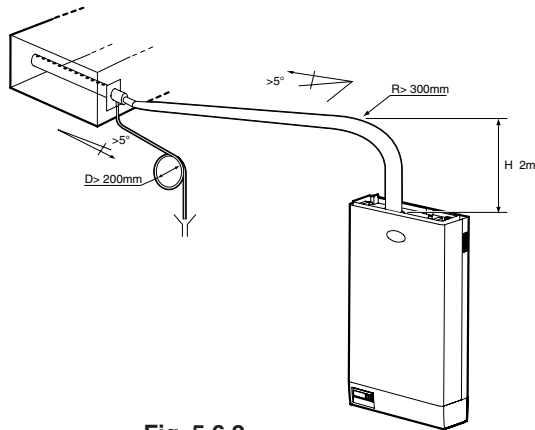
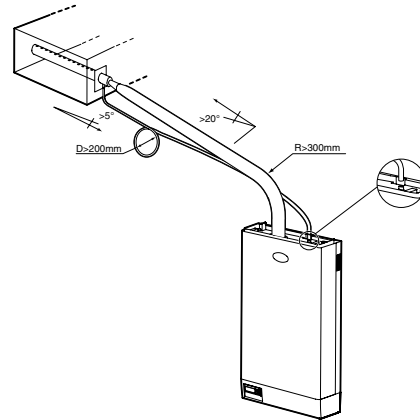

Fig. 5.6.2
Fig. 5.6.3
1. rise upwards with a vertical section of at least 300 mm, followed by a curve with a minimum radius of 300 mm and finally a downwards section with a constant gradient of no less than 5° (see Fig. 5.6.2);
2. for short paths (less than 2 metres), curves with a minimum radius of 300 mm, followed by a rising section with a gradient of no less than 20° (see Fig. 5.6.3).
Due to the re-condensation of the steam produced, condensate forms inside the steam pipe and the distributor that must be removed to avoid gurgling and a reduction in efficiency. The condensate is drained by gravity using a flexible pipe that is suitable for the purpose. The use of unsuitable tubing may cause weakening and cracking with consequent steam leaks. To avoid the release of non-condensed steam from the condensate pipe, a drain trap must be made by looping part of the drain pipe. The end of the condensate pipe can be connected to the nearest drain pipe, with a minimum slope of 5° to assist correct downflow (see Fig.5.6.2). If the distance of the distributor allows, the pipe may be connected to fitting C, supplied, to be screwed onto the top of the humidifier, in order to drain the condensate back into in the supply tank of the boiler (see Fig. 5.6.3).